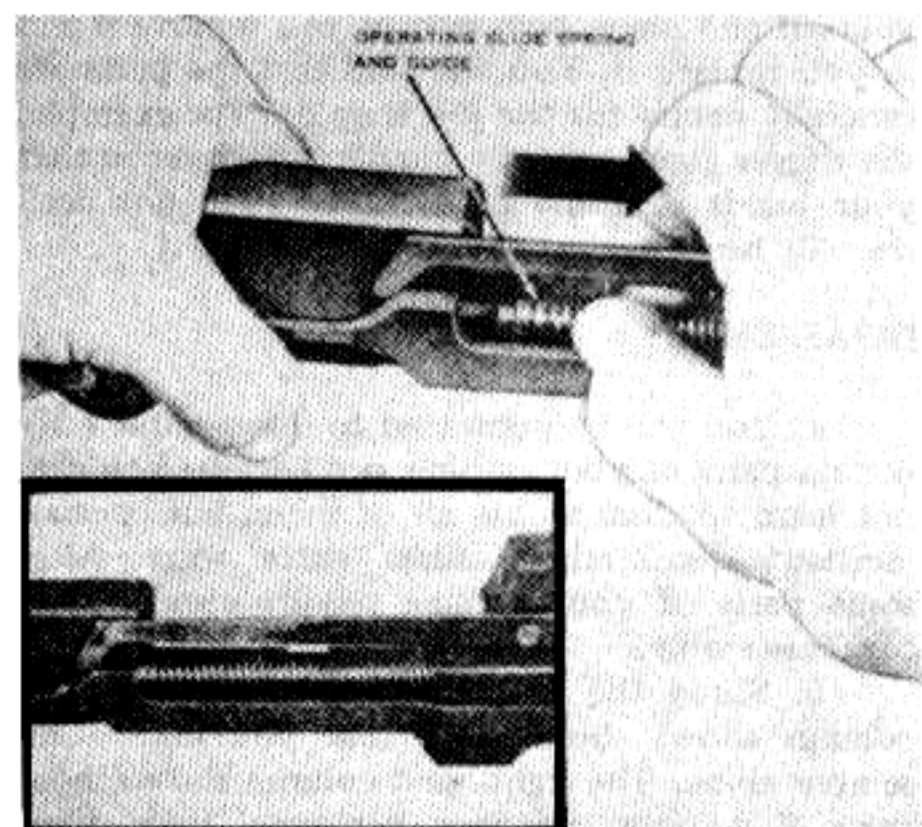

Figure 7. Removing the operating slide spring and guide.
*f.* Place the barrel and receiver group on a level surface with the muzzle pointing to the left, sights down. With the right thumb and forefinger, pull the operating slide spring and guide to the rear, unseating the operating slide spring guide from its well in the receiver (Fig. 7). Remove the operating slide spring and guide and separate the two parts. The operating slide spring guide will be used as a tool in further disassembly.